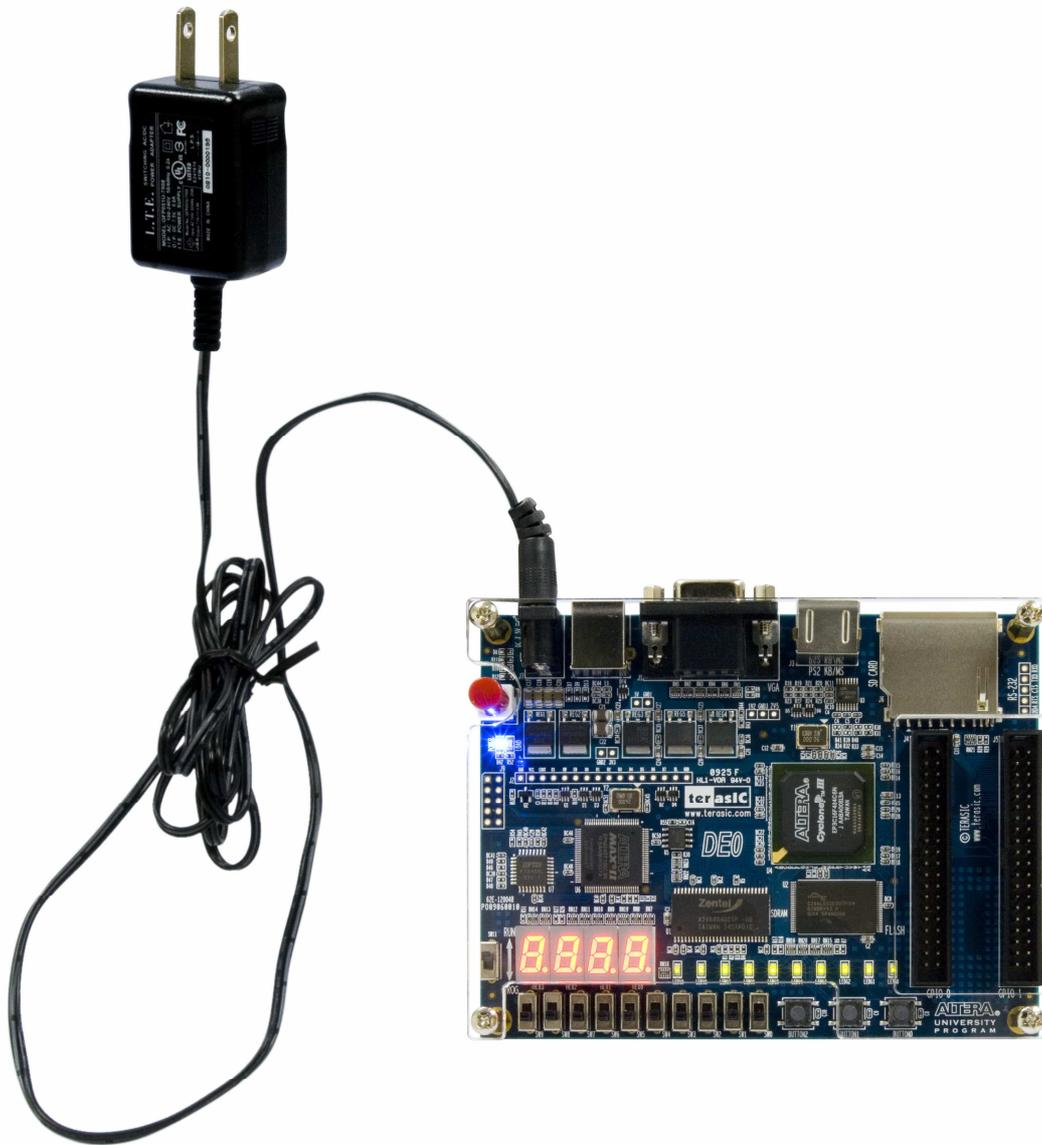

Figure 7. The connection setup for DE0 board and power supply
- Step 1.** Connect the provided power cord from the 7.5V power adapter to the wall jack as shown in Figure 7. (Please make sure the voltage supplied is the same with the specification of power supply.)